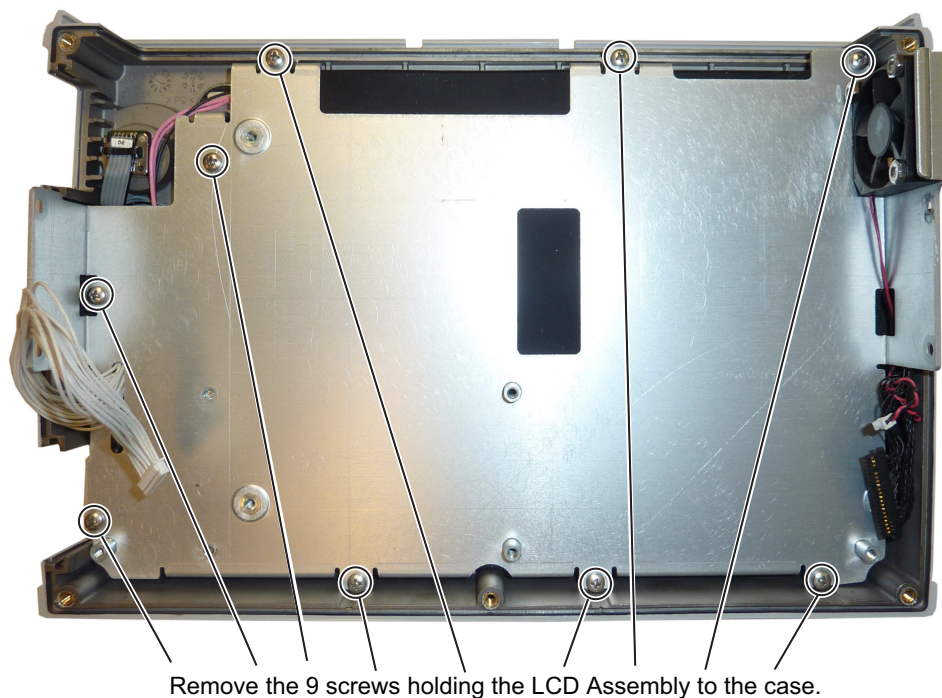

Figure 5-12. Removing the LCD Assembly
3. Remove the 9 screws connecting the LCD assembly to the front half of the case (Figure 5-12).